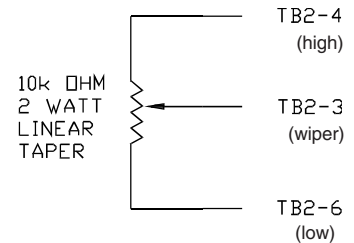
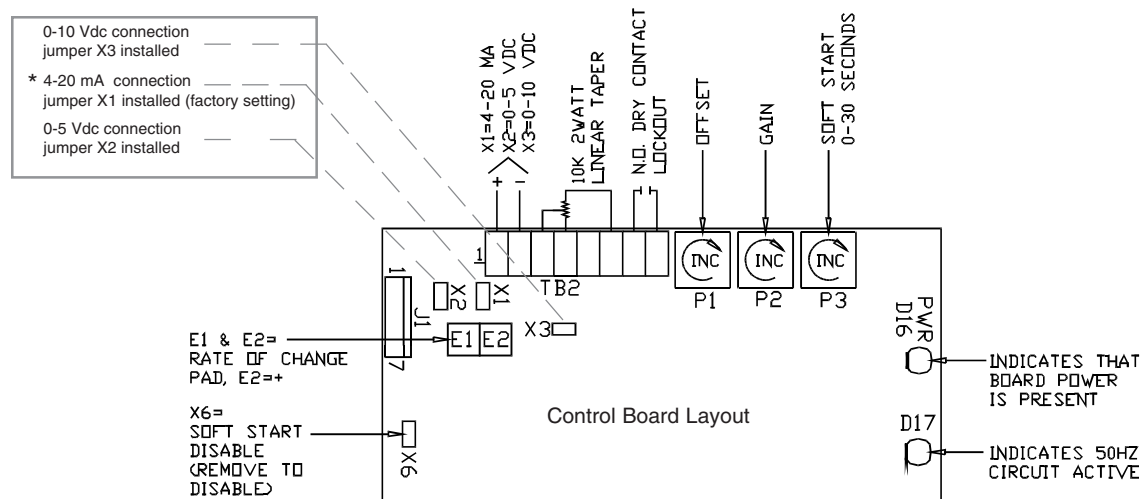

Figure 1 - Manual Connections
Figure 3 - TB2 Connections
2. Connect manual potentiometer to TB2-3(wiper), TB2-4(high), and TB2-6(low) per connection diagram. See figure 1 for connection & figure 3 for jumper locations.
2. If manual and automatic control are both used, consider using an external auto/manual switch to prevent the manual setting from overriding the automatic signal. See location of jumpers and pins figure 3.